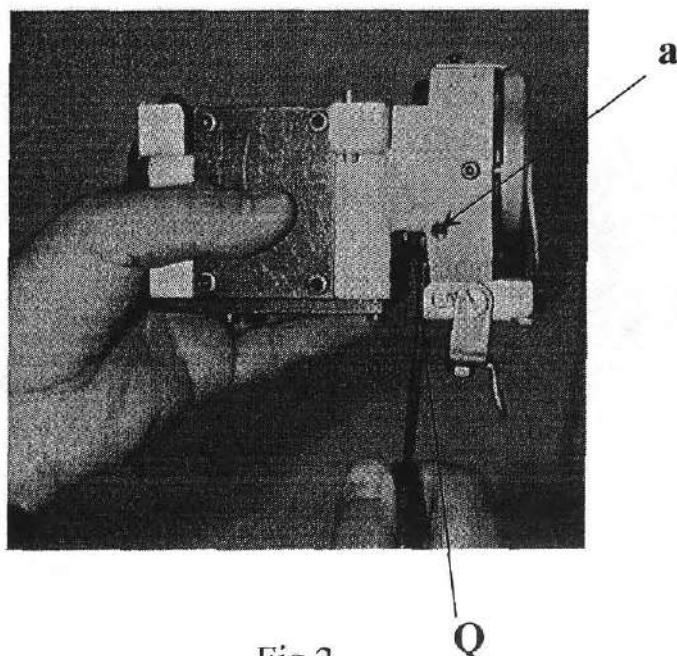

Fig.2
- Loosen set screw **a** ° (Fig.2)
- With tool insert a hole of the subtle guide adjustor **Q** right and lift direction turn , large hook can forward and backward adjusting ° (Fig.2)